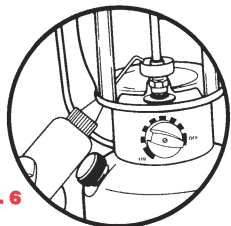

Fig. 7
2. Light alcohol with a match through lighter hole. (See Fig. 7)